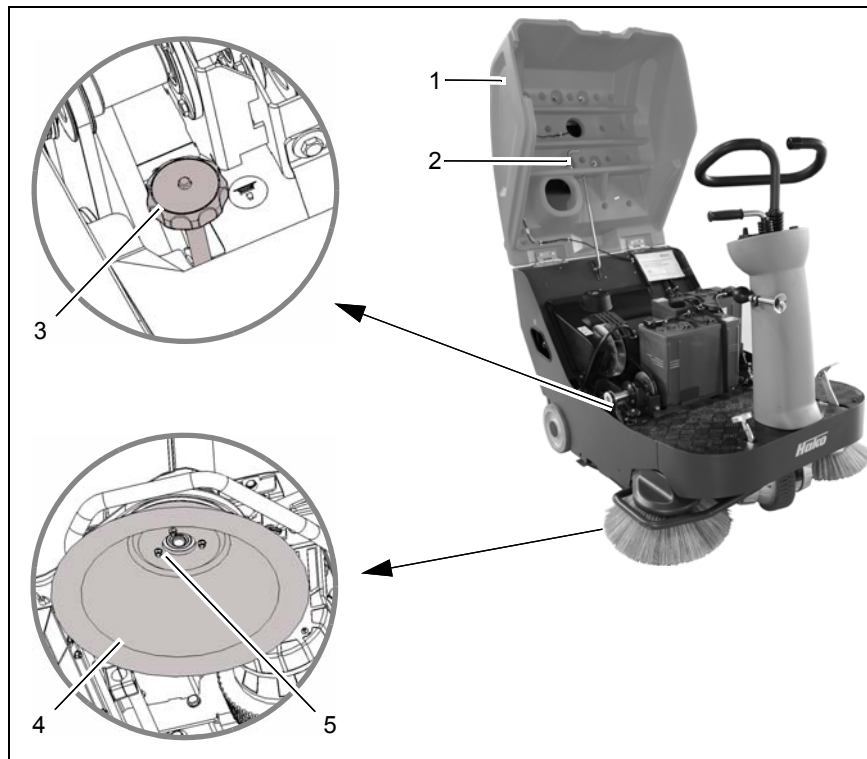

Fig.19
Check the side broom (Fig. 19/4) every week and change in the case of wear.
2. Open the seat console (Fig. 19/1) and secure with the safety support (Fig. 19/2).
3. Remove the hex nuts on the retaining screws (Fig. 19/5).
4. Remove the old side broom (Fig. 19/4) from the side broom holder and install the new one.
The sweeping pattern must be readjusted in the case of bristle wear and after changing the side broom (Fig. 19/4).
3. Turn the adjusting bolt (Fig. 19/3) until the right-hand side broom
(Fig. 19/4) touches the ground.